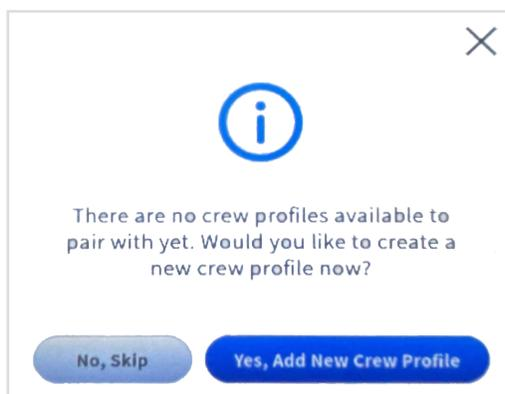
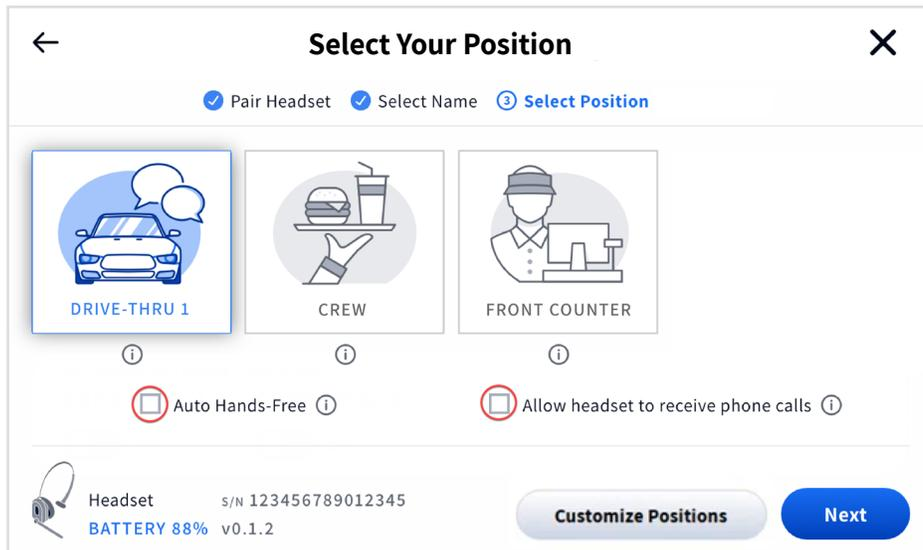

Fig. 1.21
Fig. 1.23
- \*\*\* The group you are calling must be a current designated position, see Fig. 1.23 for example. You must tap  on the headset to exit this state and return to your previous position.
Once your headset is successfully paired, one of two dialog boxes appears. If there are no crew profiles set up in the system, then Fig. 1.21 will appear. Tap the **No, Skip** button to continue as a guest (this will open the “Select Your Position & Options dialog,” see Fig. 1.23). Or, tap the **Yes, Add New Crew Profile** button (this will open the Create Crew Profile dialog, see “Chapter 2 - Crew” on page 16 and Fig. 2.2).
When the **Select Your Position** dialog appears (Fig. 1.23), you are prompted to select a position. Tap on one of the available tiles to select it (DRIVE-THRU 1 is selected in Fig. 1.23). If you are selecting the DRIVE-THRU position, you also have the option of **Auto Hands-Free** mode (the first checkbox located below the position tiles). This allows you to connect with a new customer without having to connect manually by tapping the headset keypad.
The other checkbox option is **Allow headset to receive phone calls** (see Fig. 1.23). Stores that have a landline telephone may wish to have it connected to the NEXEO system so that a NEXEO headset can be used to receive incoming phone calls. When this box is checked, the  (Action) key on a designated headset keypad can be used to answer incoming calls. Only one headset can be designated to receive phone calls, and your system must have a TI7000 installed. The TI7000 is a Telephone Interface module used to connect the store telephone to the base station. The TI7000 must also be enabled on the base station. See **Telephone Interface** under “Settings” on page 27.